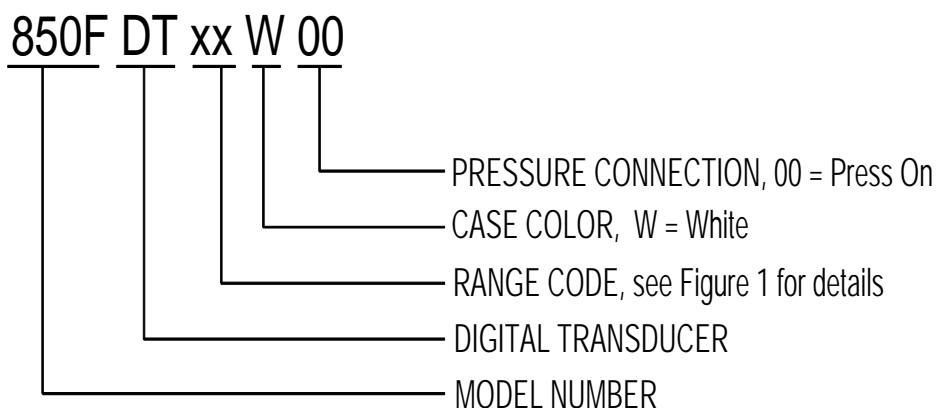

Figure 5
1. The Code that is placed in the part number to indicate the pressure range desired. See Figure 5.